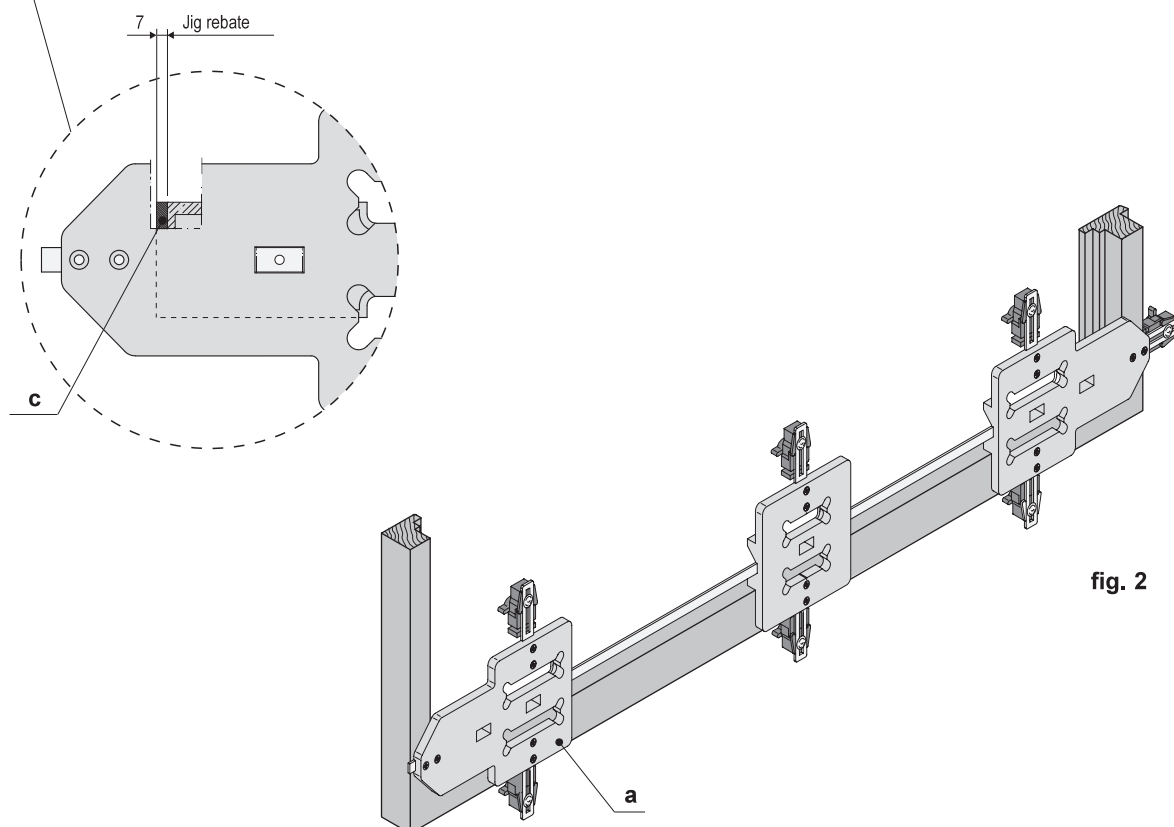

fig. 2
- 5) Using the clamps, fasten jig art. M02030.01.03 (e) for the milling of the tilt striker to the jamb opposite to the handle side (fig. 2).